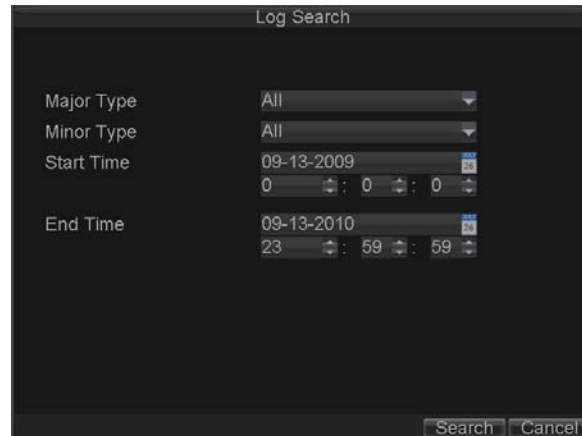

Figure 15. Log Search Menu
1. Click Menu > Maintenance > Log Search to enter the Log Search menu, shown in Figure 15.